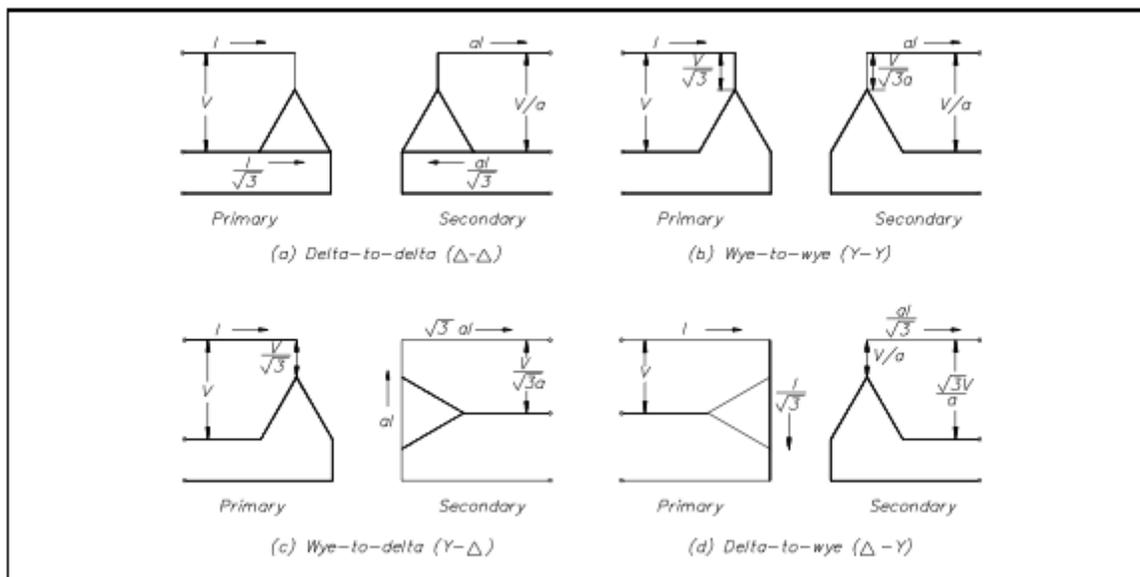

Figure 5: 3Φ Transformer Connections
A three-phase transformer may have three separate but identical single-phase (4) transformers or a single 34 unit containing three-phase windings. The transformer windings may be connected to form a 34 bank in any of four different ways (Figure 5).
Figure 5 shows the voltages and currents in terms of applied line voltage (V) and line current (I), where the turns ratio (a) is equal to one. Voltage and current ratings of the individual transformers depend on the connections (Figure 5) and are indicated by Table 1 for convenience of calculations.